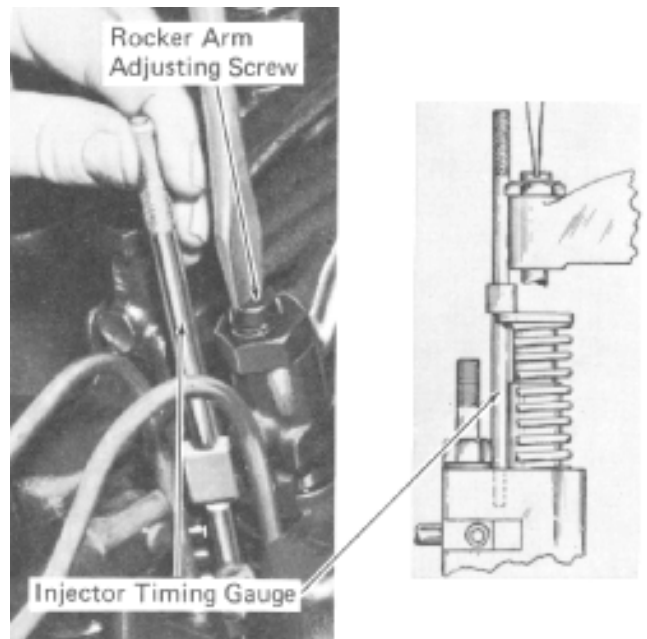

Fig. 15-10 - Timing Injector
2. Insert injector timing gauge into the hole provided for it in the injector body, Fig. 15-10.